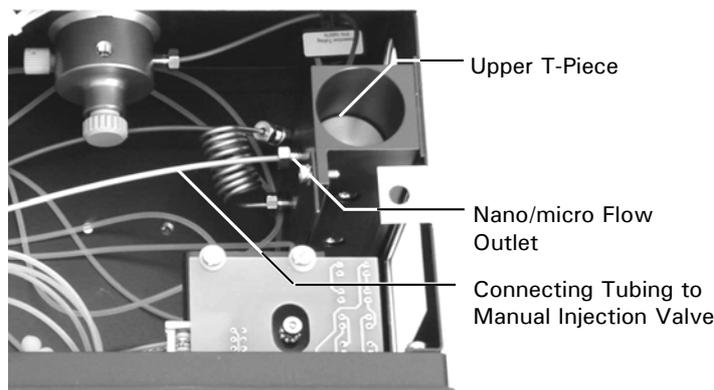

FIGURE A-9. The Nano/Micro Flow Outlet of the Solvent Organizer
The connecting tubing that is required to connect the manual injection valve to the Nano/Micro flow outlet (upper T-Piece, FIGURE A-9) and the manual injection valve to the column is presented in TABLE A-1.
- b) Disconnect the connection tubing from the Nano/Micro flow outlet (upper T-Piece) to the manual injection valve (FIGURE A-9).